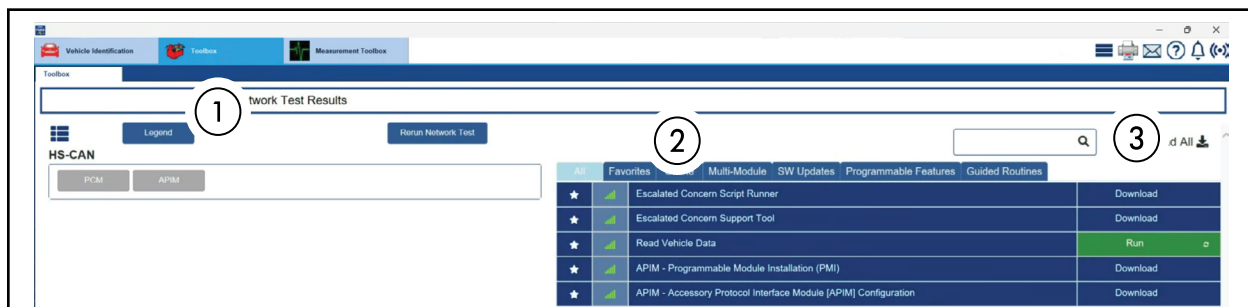

FIGURE 1
3. Select **Toolbox** (1) tab. See Figure 1.
4. Select **All**. See Figure 1.
5. Select **Read Vehicle Data** (2) and then **Run** (3). See Figure 1.